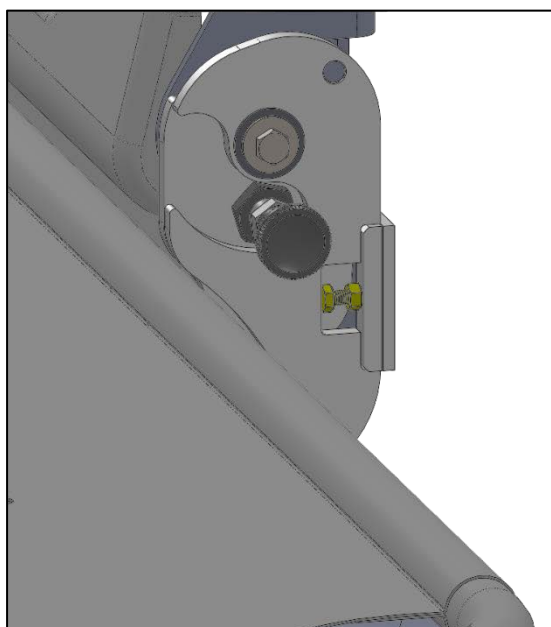

Fig.16
- Locate the angle adjustment bolts and locknuts on each side of the back frame (highlighted in Fig.16).